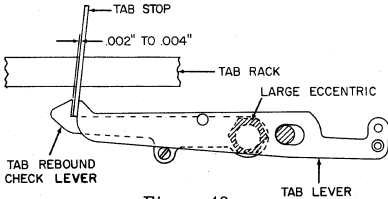

Figure 48
24. Loosen the mounting screw and adjust the large eccentric for the tab rebound check lever so that it holds a tab stop, with the tab stop against the tab lever (unlatch position), with .002" to .004" clearance (Figure 48).